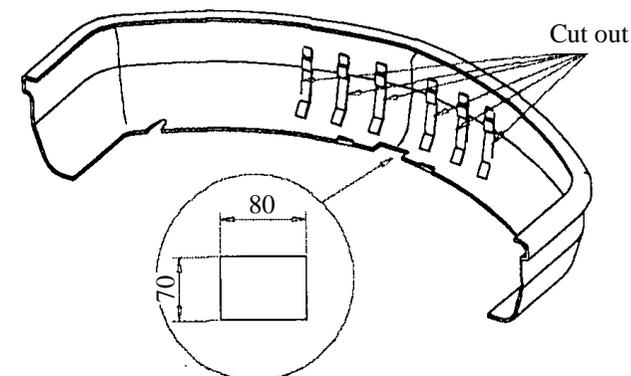

Fig. 2
3. Put main bar of the towbar (pos. 1) to the car and in places original tow handles fix it using original bolts.
4. Cut out fragments of the bumper (see fig. 2). Fragment 80x70mm - in lower part in axis of the bumper.
5. Fix body of the automat and place tow-ball according to supplied instruction. Note! Remember to place socket plate (pos. 3) as shown on the drawing 1.